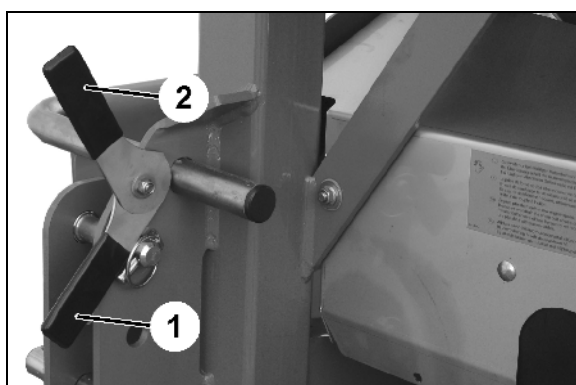

Fig. 23
1. Release the excentric lever on both sides (Fig. 23/1).